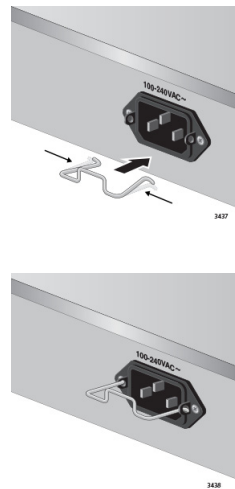

Figure 11. Inserting the Retaining Clip into the Retaining Bracket
3. Install the clip on the AC power connector on the back panel of the switch. With the “u” of the clip facing down, press the sides of the clip toward the center and insert the short ends into the holes in the retaining bracket, as shown in Figure 11.